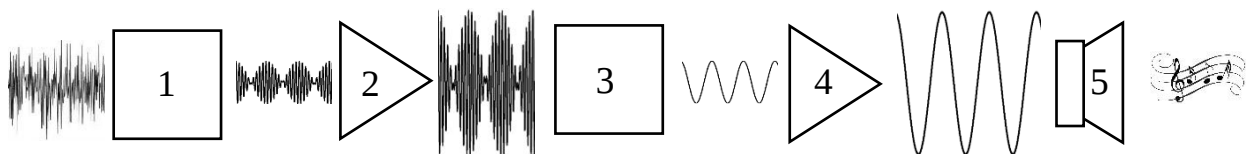

Fig. 18. Block diagram of direct amplification receiver.
In this part of the assignment you will assemble and adjust a direct amplification receiver. It is designed for reception, detection, and conversion into sound of an amplitude-modulated (AM) signal of high frequency. The block diagram of such a receiver is shown in Fig.18.